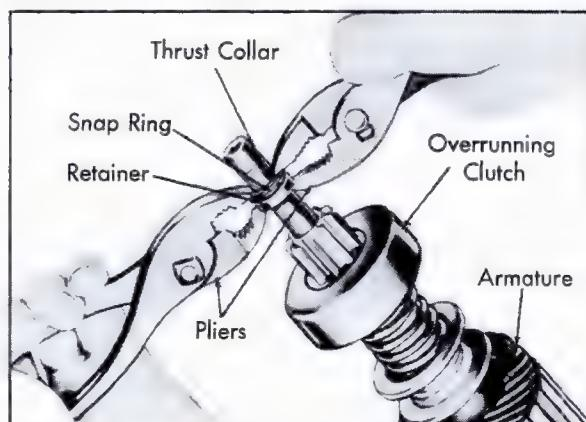

Fig. 6-19 Installing Snap Ring on Retainer
- e. Assemble thrust collar on shaft with shoulder next to snap ring, Fig. 6-19.
- f. Position retainer and thrust collar next to snap ring. Using two pairs of pliers, grip retainer and thrust collar and squeeze until snap ring is forced onto retainer, Fig. 6-19.